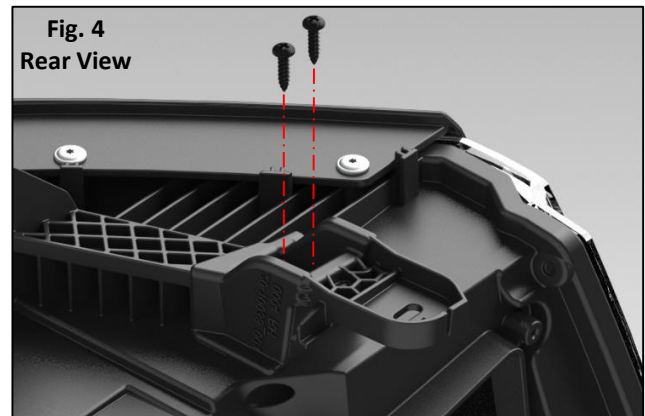

Fig. 4
4. Install: Install the prepared tab(s) ensuring a flush fit to the housing **Fig. 4**. Next, drive the 5/8" screws at the location marked **(A)**. **DRIVE SCREWS MANUALLY. APPLY GLUE TO SCREW THREADS BEFORE DRIVING.** Do not overtighten screws. Allow the glue to cure for approximately 30 minutes before installing the repaired headlight on the vehicle.